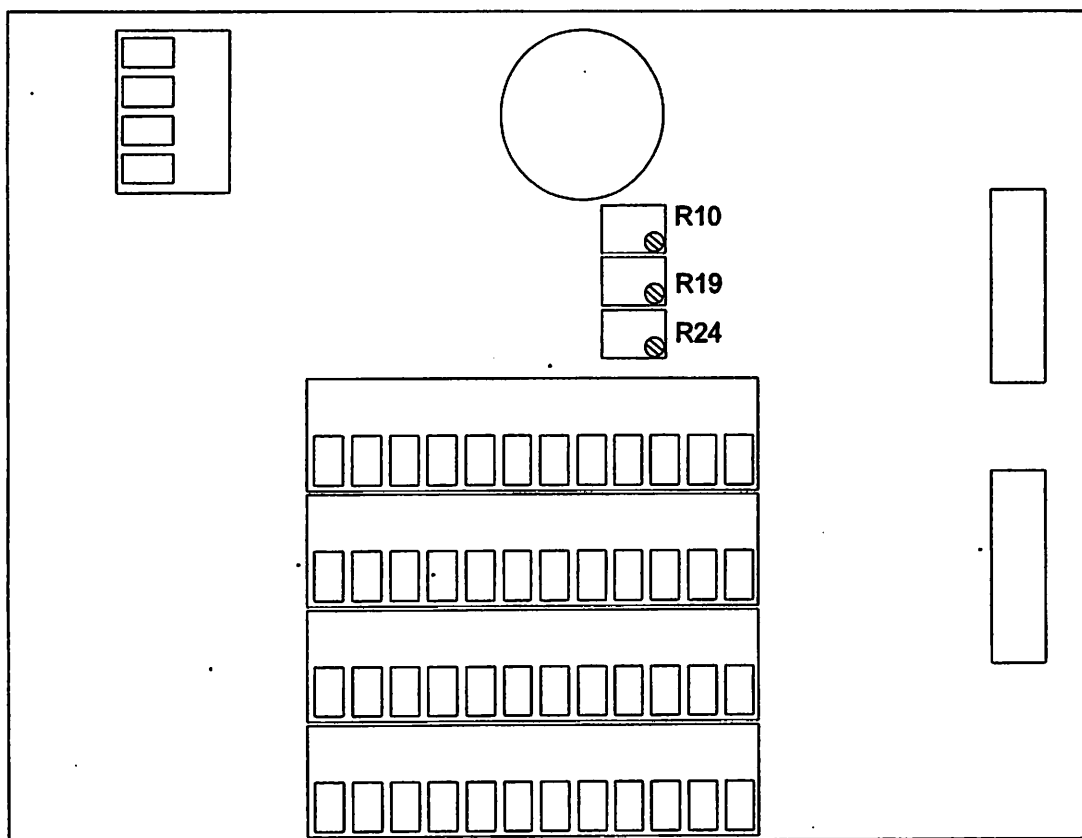

Figure 3E-8: PMT high voltage adjustment (AEC Interface board)
3.	Set up the radiation probe as per figure 3E-7 in the position indicated I.I. Input Dose . This must be able to read dose values as low as 2 to 3 mR / min.
4.	Set up the absorber as shown in figure 3E-7. 1 1/2" (40 mm) of aluminum or 20 cm of water is recommended. Ensure that the absorber covers the full input field of the I.I.
15.	<p>Adjust the PMT high voltage using R10 (refer to figure 3E-6) on the AEC interface board while pressing the fluoro footswitch such that the PMT current is 20 ± 5 uA at the desired I.I. input dose. This corresponds to a voltage of 2.00 ± 0.50 VDC for a 100K resistor if using the voltmeter method in the above step. The high voltage should be approximately -750 VDC at this point.</p> <p>The PMT high voltage is adjusted to yield the PMT current noted in this step. The approximate value of PMT voltage is stated for reference only. The PMT voltage does not normally need to be measured in this step, however, if it is desired to do so for troubleshooting purposes please note the following:</p> <p>USE TP5 ONLY ON THE AEC INTERFACE BOARD FOR THE HV METER GROUND WHEN MEASURING PMT HIGH VOLTAGE. CONNECT THE GROUND FIRST BEFORE MEASURING THE HIGH VOLTAGE. DO NOT ATTEMPT TO MEASURE THIS WITHOUT A SUITABLE METER.</p>